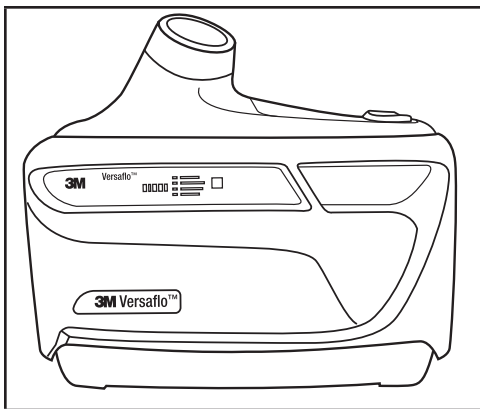

Fig. 15 – 3M™ Versaflo™ Powered Air Purifying Respirator TR-600 with filter/cartridge label visible
- If the filter cover is used, the filter/cartridge label must be visible in the filter cover window (Fig. 15).